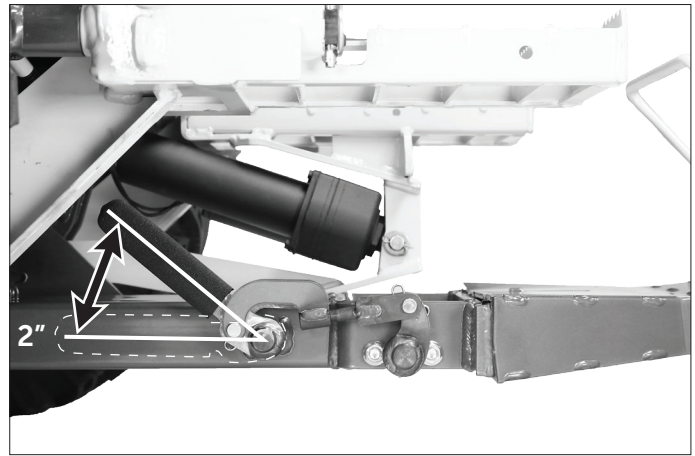

Figure 4.11: Hitch Lock Arm Travel
2. The hitch lock lever should travel approximately 2" at grip end after implement hitch adapter is fully seated on implement hitch tongue as shown in Figure 4.11.